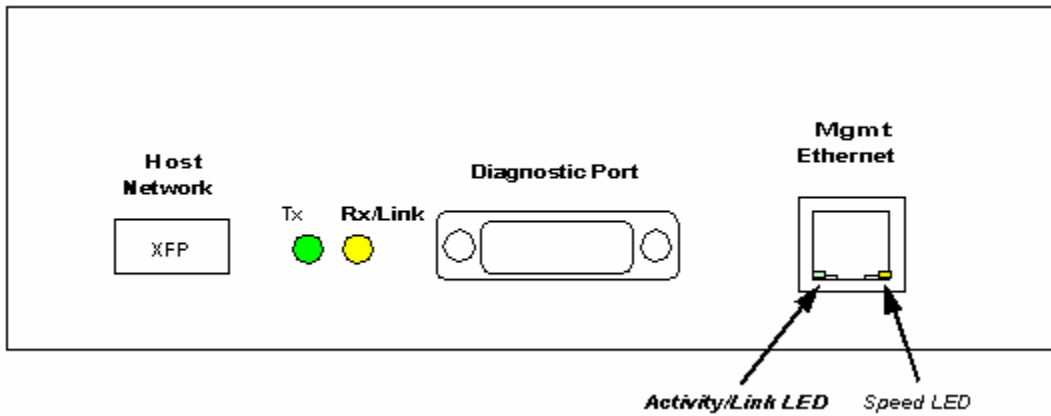

Figure 2-6 External Interfaces on the xStack DSN-3400 Enclosure
- (DSN-3400) One 1 GbE RJ-45 iSCSI host network data port. This iSCSI data port has port speed and port activity LEDs. (see Figure 2-2, Figure 2-6 and Table 2-6)
- Diagnostic port (**Diagnostic Port**) - one 9600 bps RS-232-C DB9 diagnostic port is located to the right of the iSCSI data ports. This requires a female-to-female straight-through cable provided with the system. (see Figure 2-4 for the DSN-3200 and Figure 2-6 for the DSN-3400)
- Management port (**Mgmt 10/100**) - one 10/100 RJ-45 management is located to the right of the diagnostic port. The management port has port speed and port activity LEDs. (see Figure 2-2, Figure 2-4 and Figure 2-6)
Figure 2-6 shows the hardware components on the back of the xStack DSN-3400.
In addition, the management port has two bicolor LED indicators that show the activity/link and speed for this port. Table 2-7 describes the management port LEDs and Figure 2-6 shows their location.
1. Connect one end of a single mode or multimode XFP optical cable to the DSN-3400 storage system optical host network connection port. Facing the back of the DSN-3400, this port appears on the left side (see Figure 2-6).
2. Connect the other end of the cable into the DSN-3000 series storage system **Mgmt 10/100** port. This port is located to the right of the diagnostic port on the back panel (see Figure 2-4 for the DSN-3200 and Figure 2-6 for the DSN-3400).